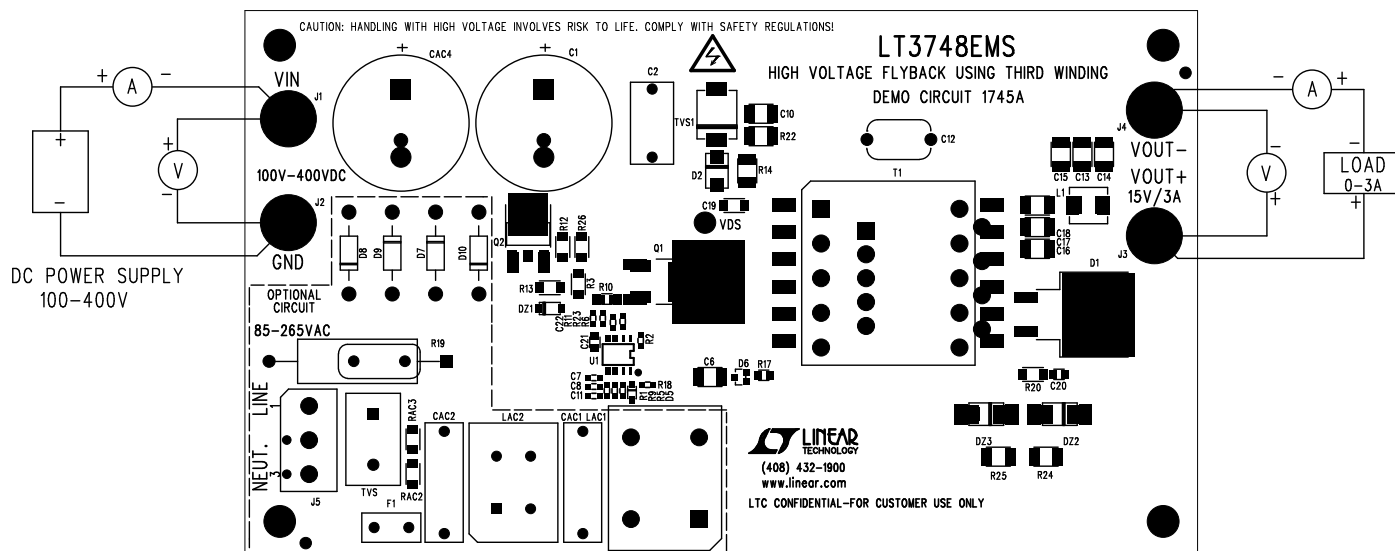

Figure 1. Proper Measurement Equipment Setup for DC Input
Refer to Figure 1 for proper measurement equipment setup for DC inputs applications. It is suggested that the DC power supply be connected to the VIN and GND ports on the upper left of the demo circuit. Follow the procedure below.
1. With power off, connect the DC input power supply to VIN and GND on the board (Refer to Figure 1).